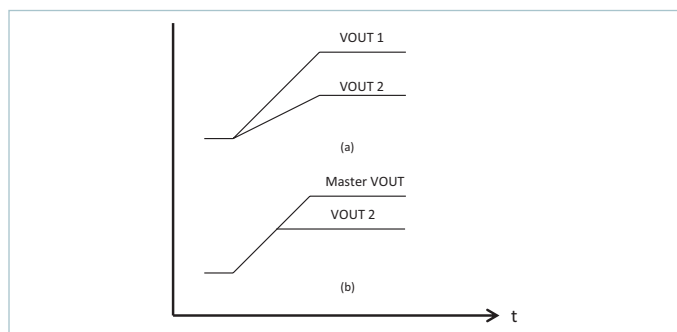

Figure 25 — PI3749-x0 tracking methods
to startup and reach regulation at the same time (see Figure 25 (a)). To implement proportional tracking, simply connect all devices TRK pins together.
All connected regulators' soft-start slopes will track with this method. Direct tracking timing is demonstrated in Figure 25 (b). All tracking regulators should have their Enable (EN) pins connected together for proper operation.